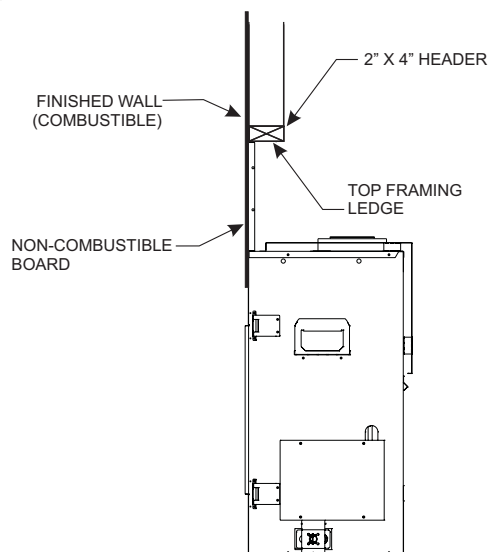

Figure 30
- Non-Combustible board installed flush to face (framing brackets at 1/2-inch set back). **See Figure 30.**